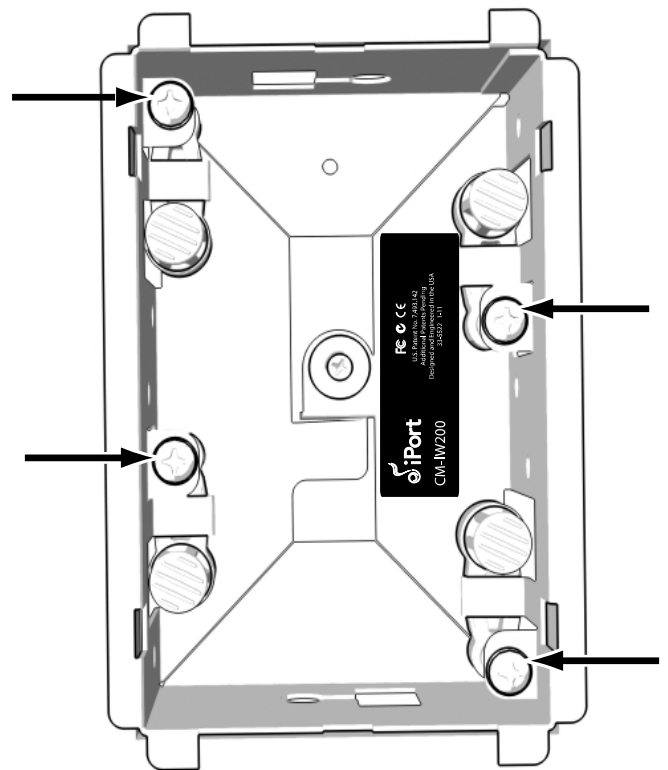

Figure 5: Roto-Lock Screw Locations
9. Hand-tighten the four Roto-Lock screws on the Control Mount's utility box as shown in Figure 5. The Roto-Lock clamps will automatically rotate into position behind the wall and begin clamping the mount.